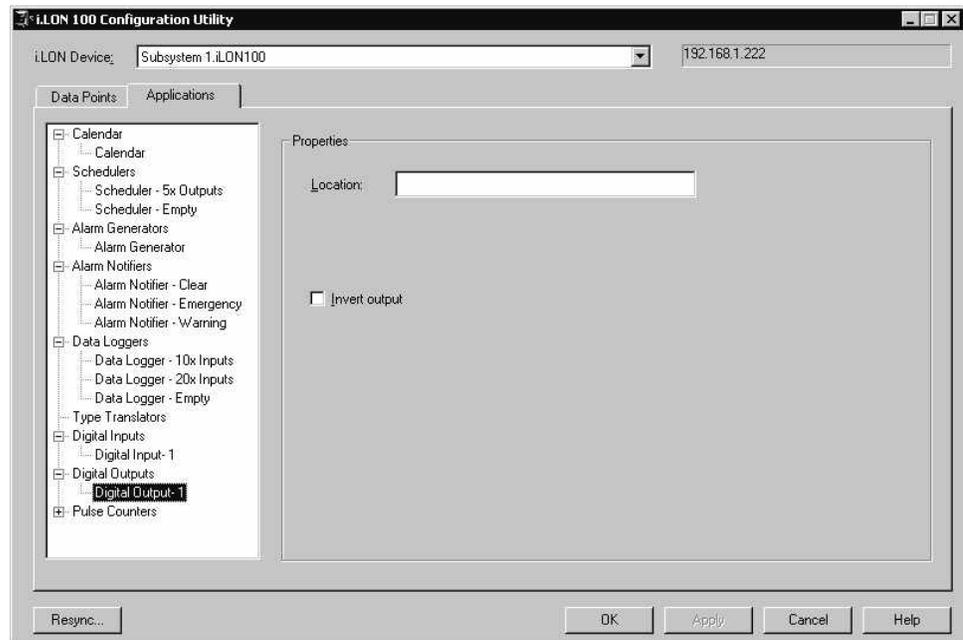

Figure 8.4 Digital Outputs Tab
8. Enter the IP address of the *i.LON 100* server and then click **OK**. The Digital Output tab opens, as shown in Figure 8.4.